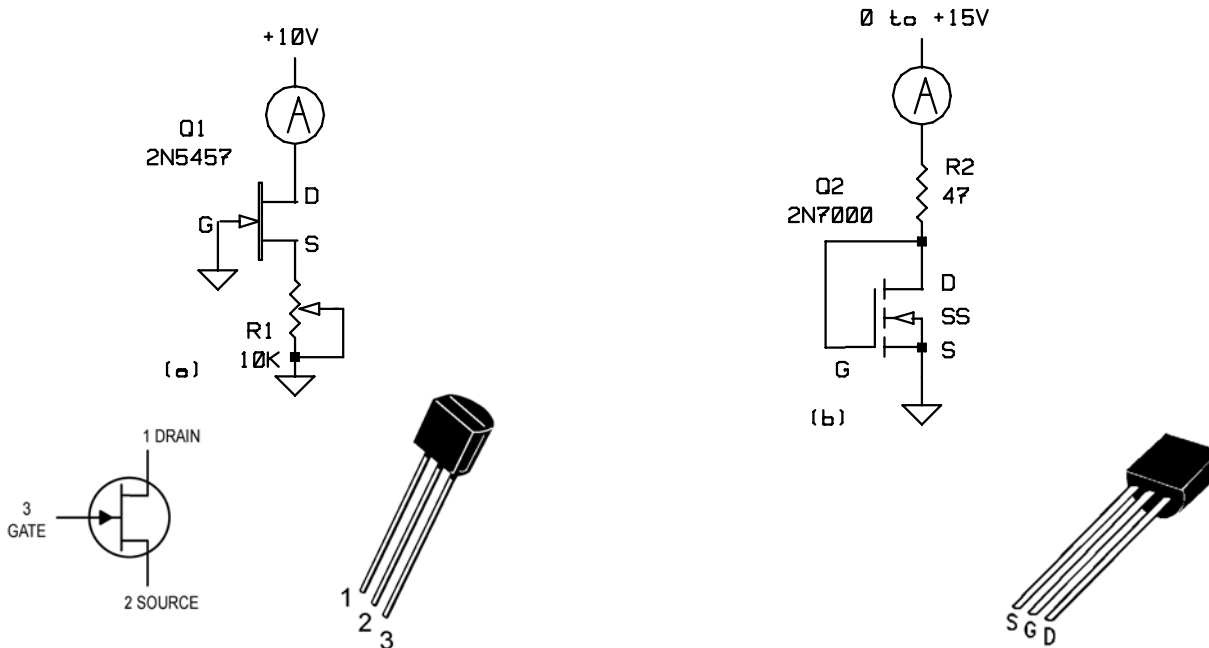
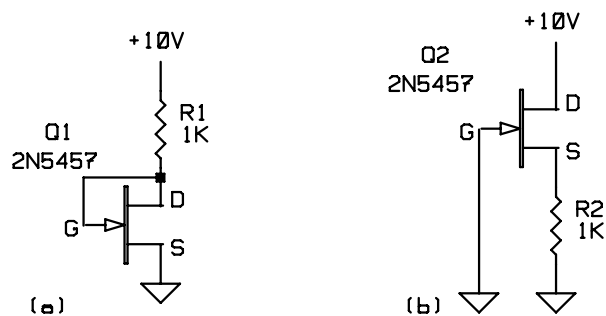
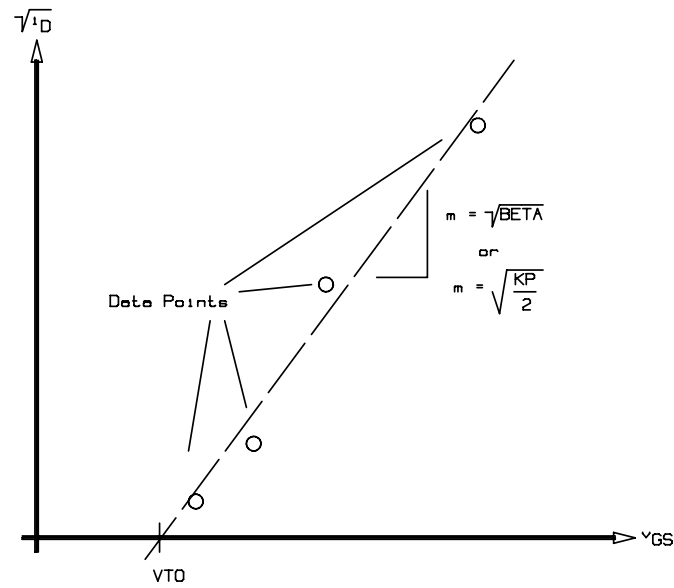

Fig. 1. (a) JFET test circuit. (b) enhancement MOSFET test circuit.
Fig. 2. JFET circuits.
Fig. 4. Best-fit plot of square-root of i_D vs. v_{GS} .
Fig. 1 shows test circuits for measuring key parameters of the JFET and MOSFET. Both of these circuits are designed to ensure constant-current mode (saturation mode) operation at all times. In both test circuits, the drain current (i_D) and gate-source voltage (v_{GS}) at four or more well-spaced data points are to be recorded. The data taken in the following procedure will later be processed to find the SPICE model parameters *for your specific part*, as opposed to data for a "typical" part.
1. Set up the JFET test circuit of Fig. 1(a). The ammeter will need to read drain currents up to about 20 mA. Use a DVM to record the gate-source voltage v_{GS} .
4. Set up the MOSFET test circuit of Fig. 1(b). The ammeter will need to read drain currents up to about 100 mA (the 2N7000 is a higher-current device than the 2N5457). Use a DVM to record v_{GS} .
Set up each of the circuits in Figs. 2 and 3. Record the $i_D - v_{GS}$ pairs in obtained in each case. Keep the specific two transistors used by your laboratory group in a safe place until the report for this lab is successfully written. Should you find that there would be any question about the validity of the data you have taken, you could re-check your data points.
The report has three main themes: (1) the interpretation of the data taken using Fig. 1 to find model parameters for the FETs, (2) hand computation of the expected $i_D - v_{GS}$ solutions for the circuits of Figs. 2 and 3, and the use of SPICE together with your measured model parameters to compute solutions for the circuits of Figs. 2 and 3. You should also examine the data sheets for the devices used in this experiment, and *using only the information found on the data sheets* make the best possible estimation of the solutions for Figs. 2 and 3. Your report should include the following points:
1. How do you know that the FET can only operate in its constant-current region in the circuits of Fig. 1?
2. Use the procedure illustrated in Fig. 4 of the Appendix to derive V_{TO} and BETA or KP from the data taken using Fig. 1. Discuss the procedure.
3. Use the measured values of V_{TO} , BETA and KP to hand calculate i_D and v_{GS} in Figs. 2 and 3. Relate these parameter names to the ones used in your electronics text.
5. Use the SPICE models for a "typical" device to solve the circuits of Figs. 2 and 3. Compare with your lab results.
The experimental $\sqrt{i_D}$ vs. v_{GS} data are plotted as shown in Fig. 4. The best-fit line drawn through the data points determines VTO (the v_{GS} -axis intercept) and $BETA$ or $KP/2$ (the square of the slope of the line). This can be derived from (1) or (3).